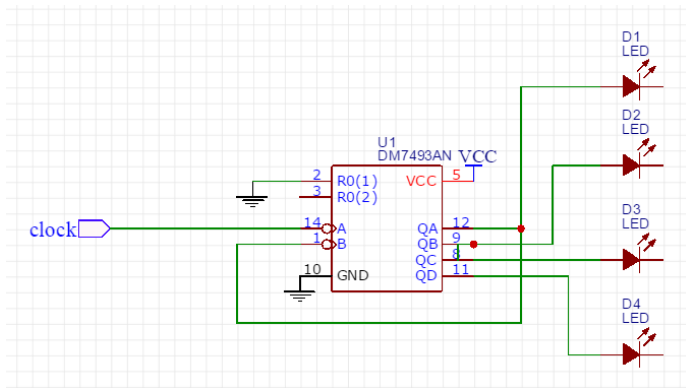

Figure 2.1. Wiring diagram for a Mod-16 counter.
2.2* (* = lab work) Connect the 7493 as a 4-bit counter as a "modulo-16" counter which counts from 0 to 15 (F in hex) and returns to 0 on the 16th count. Also bring QD, QC, QB, QA to the LED bargraph. Ground the Ro(1) reset pin (pin 2) to allow the 7493 to count. (Note, that Ro(1) and Ro(2) are connected internally so that if either reset input is grounded, the circuit will continually count. So, you could have grounded pin 3 or both pins 2 and 3 and it would continually count.) Next, connect the normally high pulser output (push button switch) to the counter's clock input at pin 14. Figure 2.1 shows the *wiring* diagram for this circuit. As you make connections, it is a good idea to put a check mark next to the wire in order to know what part of the circuit you have completed and to ensure that you do not forget any wires.
Note: Since you have never wired a circuit before, Figure 2.2 is provided to help you understand how to connect the circuit. However, as you are connecting the wires to the chip, try to follow the wiring diagram in Figure 2.1 rather than the circuit diagram in Figure 2.2. For the remainder of the experiments you will only be given, or will design your own, wiring diagrams.
2.5* Design a mod-N counter. Your instructor should give you a value for N from the set **5, 6, 8, 9, 12**. If not, you should choose your own value from this set. Draw the wiring diagram for your circuit in your lab manual (similar to Figure 2.1).